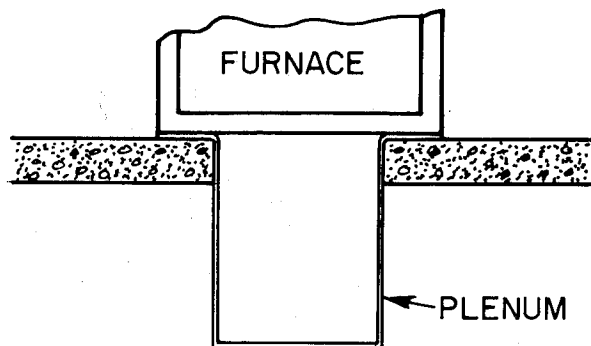

Fig. 5—Furnace on a Concrete Slab
- Place plenum and furnace as shown in Fig. 5.